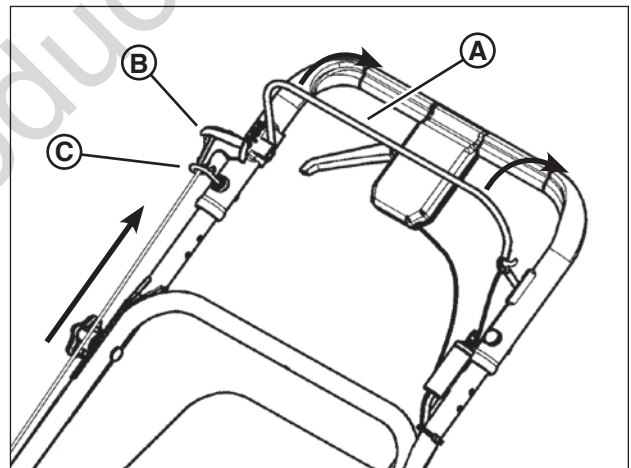

Figure 3: Starter rope handle
1. Squeeze the blade control (**A, Figure 3**) against the handle.